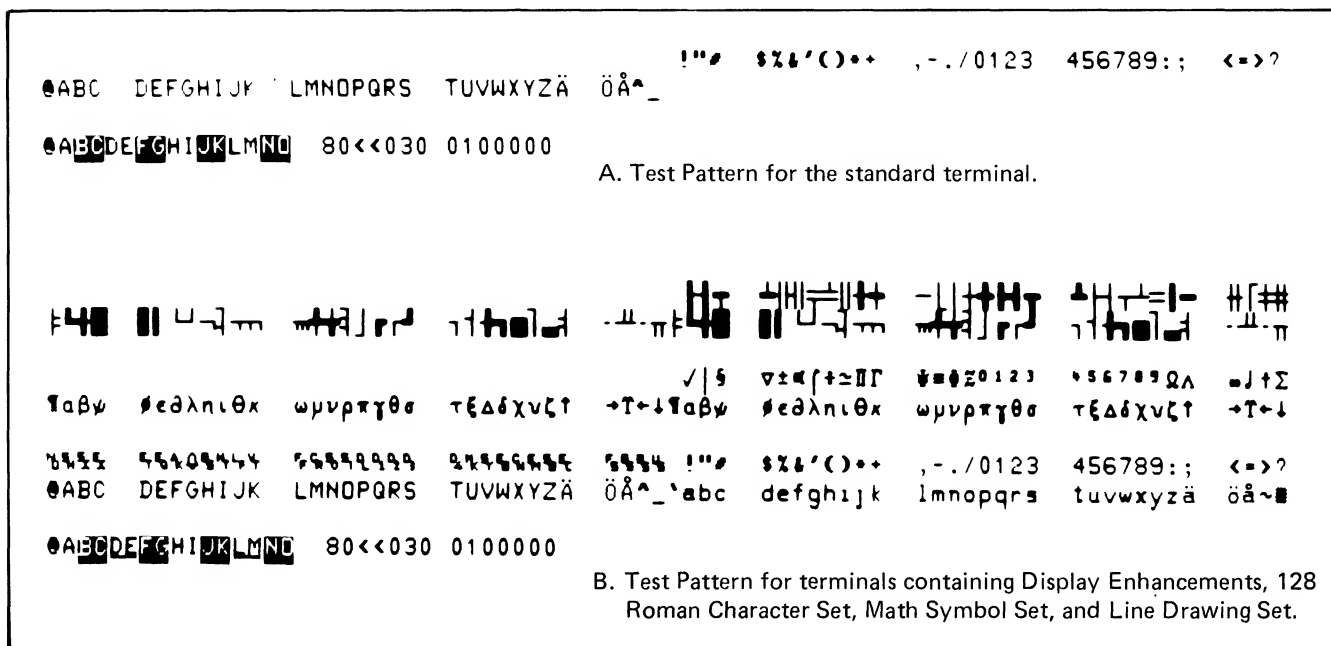

Figure 7-39. Basic Self-Test Patterns (HP 2645S)
- b. Basic self-test patterns for the HP 2645S and HP 2645N are given in figures 7-39 and 7-40, respectively.